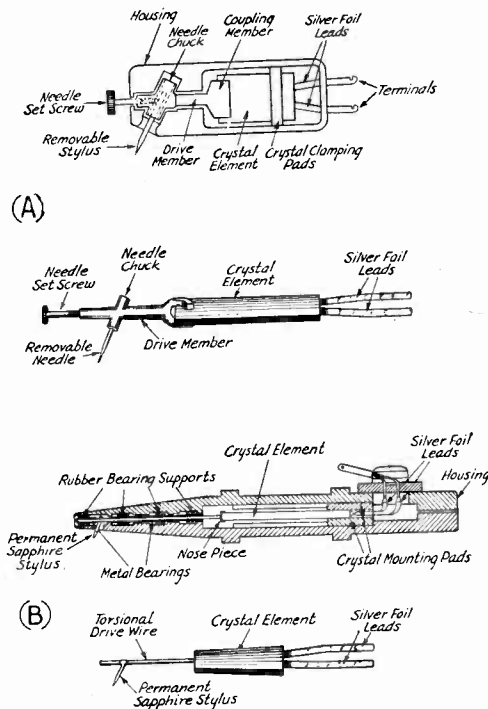

Fig. 2—Crystal pickups.
FIG. 2. Examples of IOU's placed in the coffee can which contains the business funds of Jones Radio Service. A word of advice—the fewer of these you use, the fewer bookkeeping headaches you'll have.
Typical examples of crystal pickup construction are shown in Fig. 2. The inexpensive unit at (A) has a minimum of parts and is designed to be simple of construction. The needle chuck,